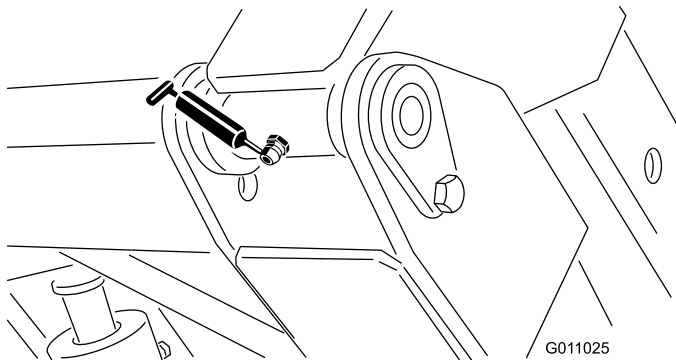

Figure 32
- Hopper pivot (upper) (2) (Figure 32).